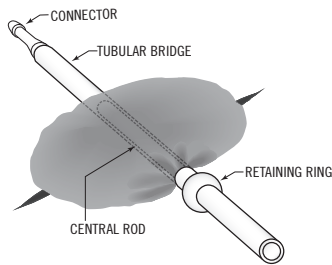

Figure 2
4. Insert the CONNECTOR into one end of the SLING and draw the TUBULAR BRIDGE into position. Remove the SLING. (See Figure 2.)